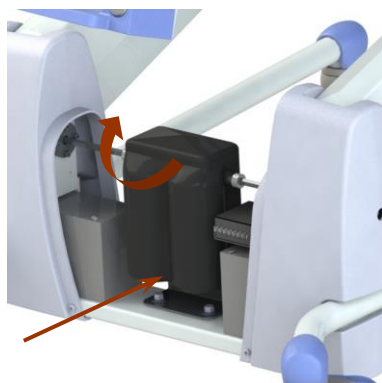

Figure 5 Motor
3. Detach M6 screws under the motors. Tilt the motors. (See figure 5)